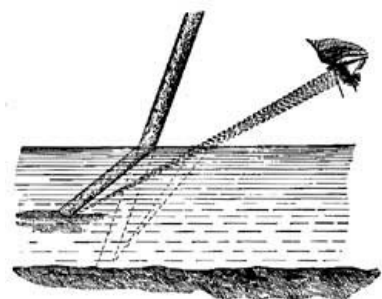
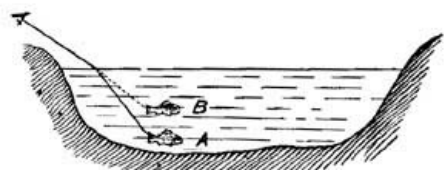

FIG. 64.—A straw or stick in water seems broken.
FIG. 66.—A fish at *A* seems to be at *B*.
**107. Bent Rays of Light.** A straw in a glass of lemonade seems to be broken at the surface of the liquid, the handle of a teaspoon in a cup of water appears broken, and objects seen through a glass of water may seem distorted and changed in size. When light passes from air into water, or from any transparent substance into another of different density, its direction is changed, and it emerges along an entirely new path (Fig. 64). We know that light rays pass through glass, because we can see through the window panes and through our spectacles; we know that light rays pass through water, because we can see through a glass of clear water; on the other hand, light rays cannot pass through wood, leather, metal, etc.
**108. How Refraction Deceives us.** Refraction is the source of many illusions; bent rays of light make objects appear where they really are not. A fish at *A* (Fig. 66) seems to be at *B*. The end of the stick in Figure 64 seems to be nearer the surface of the water than it really is.